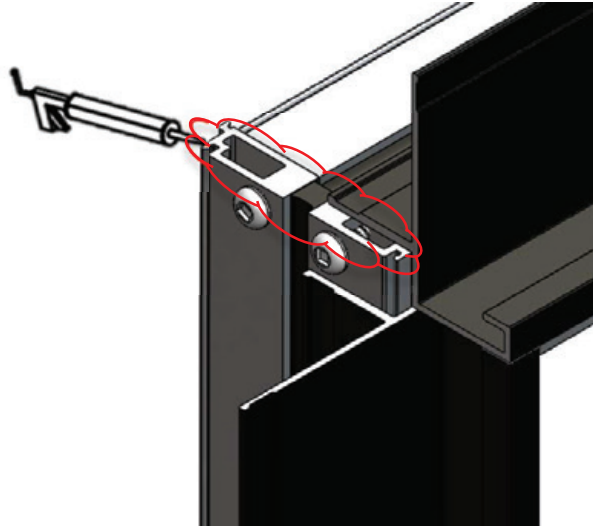

FIGURE 1
9. Apply sealant to the backside of the 2 Nail-Fin Corner Adapters (Part #10) and install the brackets at upper corners of the frame as shown in Figure 1.